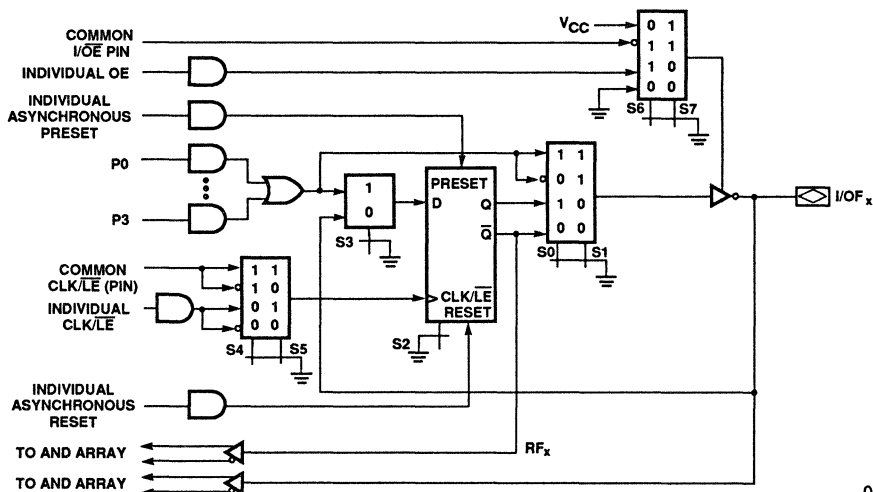

Figure 2b. PALCE29MA16H Macrocell (Dual Feedback)
**I/OF0-I/OF7 (PINS 3, 4, 9, 10, 15, 16, 21, 22):** Eight bidirectional I/O pins with two independent feedback paths to the AND array. The first feedback path is a dedicated I/O pin feedback to the AND array for combinatorial input. The second feedback path consists of direct register/latch feedback to the array (see Figure 2b).
Eight of the macrocells ( $I/OF_0$ - $I/OF_7$ ) have two independent feedback paths to the AND array (see Figure 2b). The first is a dedicated I/O pin feedback to the AND array for combinatorial input. The second path consists of a direct register/latch feedback to the array. If the pin is used as a dedicated input using the first feedback path, the register/latch feedback path is still available to the AND array. This path provides the capability of using the register/latch as a buried state register/latch. The other eight macrocells have a single feedback path to the AND array. This feedback is user-selectable as either an I/O pin or a register/latch feedback (see Figure 2a).